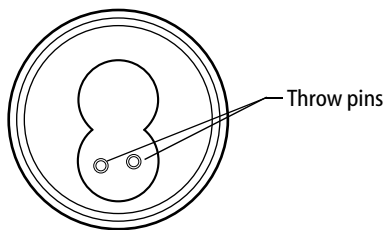

Figure 5 Aligning the throw pins to prepare for the installation of the brass construction core.
- 1 Align the throw pins with the turn knob or with an installation tool (ED-211) to make sure that the cam or the throw member is in its proper position for installation (see the specific product installation instructions). See Figure 5.